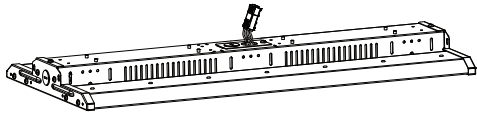
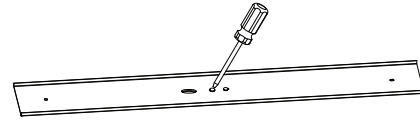

Figure19
Figure20
- Step1. Knock off the knockout hole on the back of the fixture, take out the wires from the knockout hole (Figure 19), open the front cover of the fixture, and knock out the two knockout holes on the cover (Figure 20);